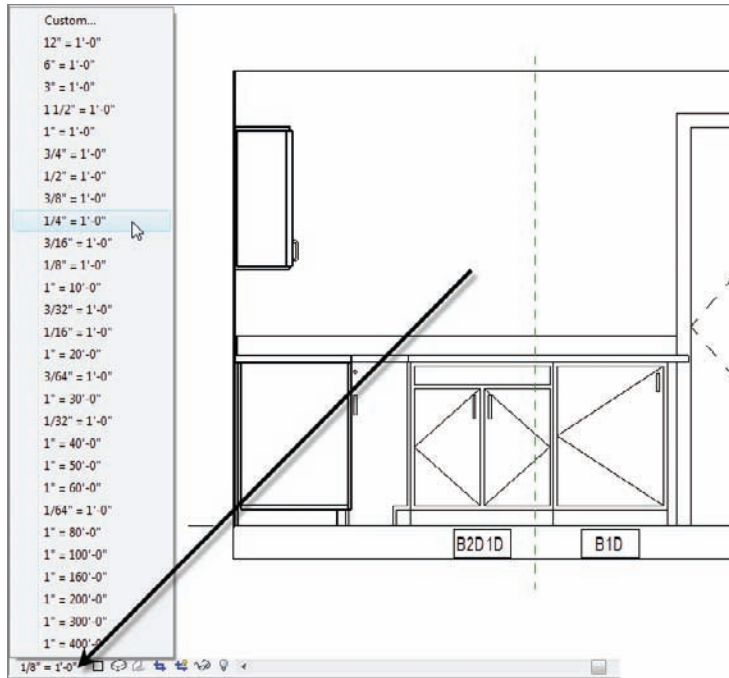

FIGURE 11.88 Changing the scale to 1/4" = 1'-0" and adding a second tag to the base cabinets
1. In the View Control toolbar, change the scale from 1/8" = 1'-0" to 1/4" = 1'-0", as shown in Figure 11.88.
4. Call it B1D (see Figure 11.88).